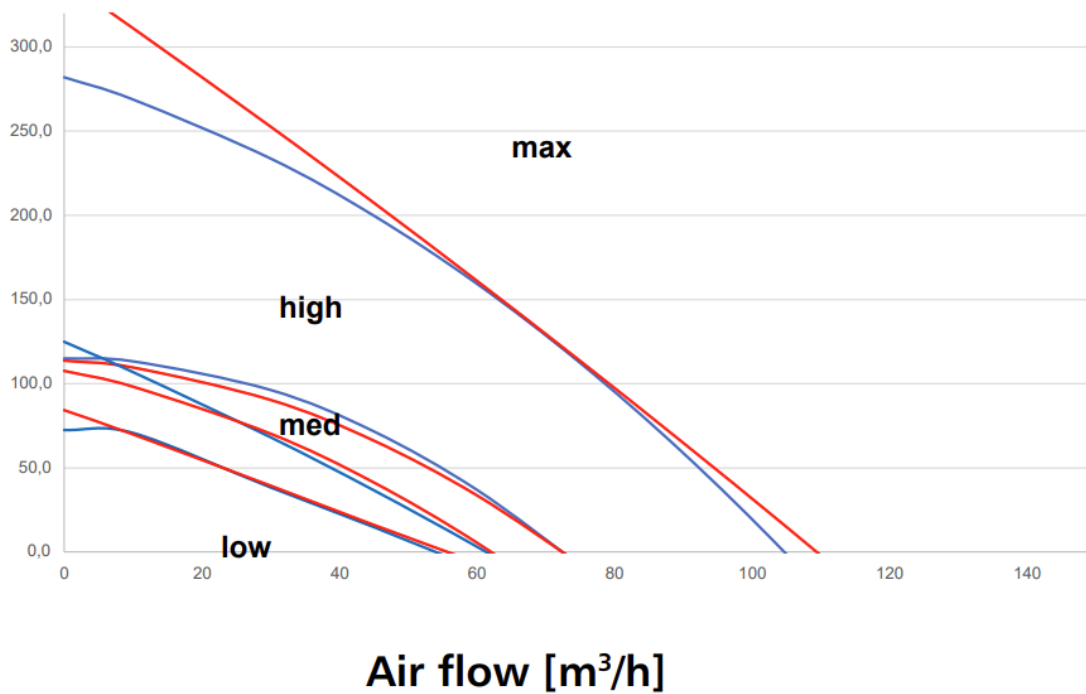

Figure 3 Total pressure for HRU-FlatAIR-80E
- HRU-FlatAIR-80E-H 80 m³/h (at 100 Pa) [Fig. 3]